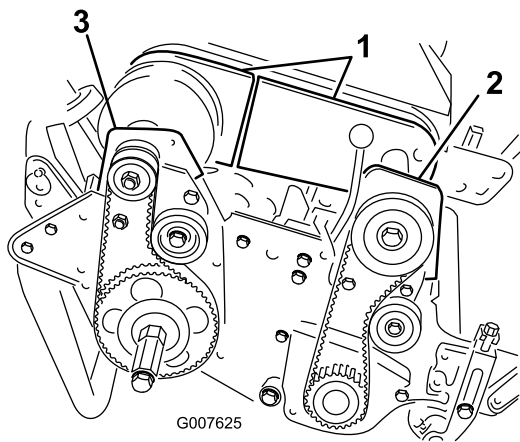

Figure 31
4. Remove the bolts securing the front and rear sections of the differential cover to the differential housing and slide the cover sections away to expose the belt (Figure 31).
6. Remove the 2 bolts and locknuts securing the front clutch housing to the side plate (Figure 31).
8. Remove the 2 bolts and locknuts securing the right rear bearing housing to the side plate (Figure 31).